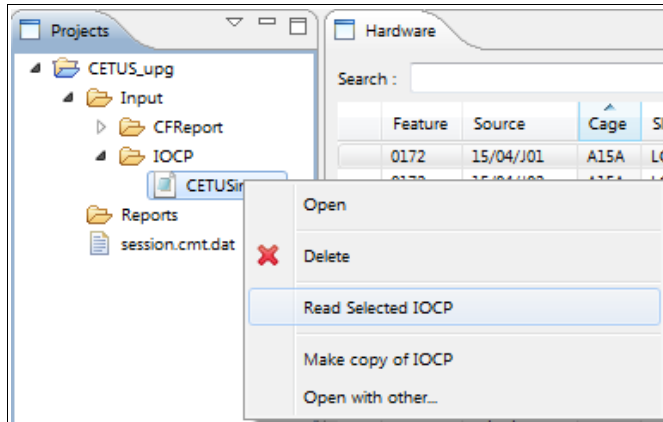

Figure 4-14 Reading the selected IOCP
3. In the Projects window, under the Input tab, expand the IOCP tab, right-click the IOCP file, and select **Read Selected IOCP** (see Figure 4-14).